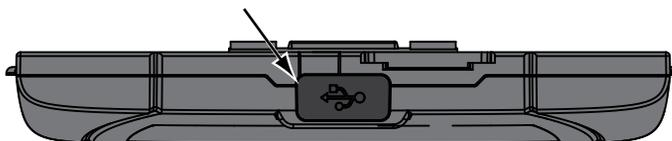

Figure 8-2 Scope Multimeter module USB port location
3. Open the USB port cover on the bottom of the Scope Multimeter module (Figure 8-2).